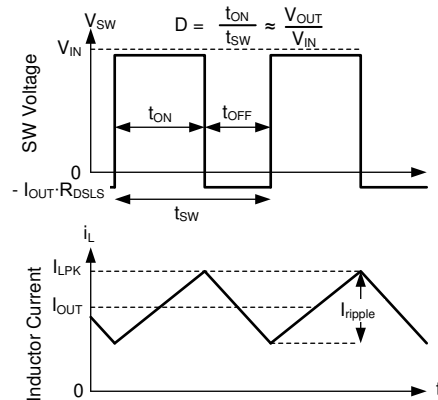

Figure 7-11. SW Voltage and Inductor Current Waveforms in Continuous Conduction Mode (CCM)
The following operating description of the LM654x0-Q1 refers to Section 7.2 and the waveforms in Figure 7-11. Both supply a regulated output voltage by turning on the internal high-side (HS) and low-side (LS) NMOS switches with varying duty cycle (D). During the HS switch on-time, the SW terminal voltage, V_{SW} , swings up to approximately V_{IN} , and the inductor current, i_L , increases with a linear slope. The HS switch is turned off by the